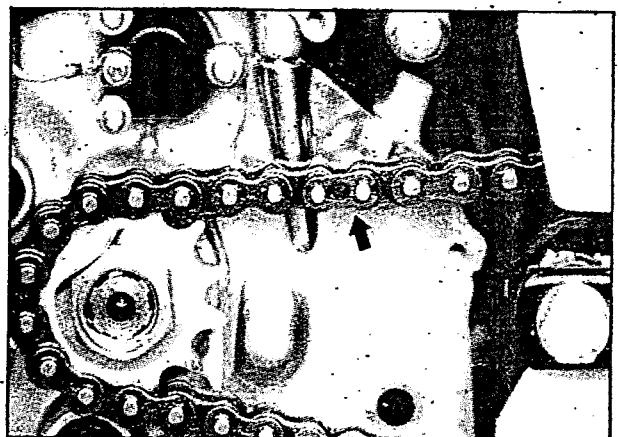

Fig 3.9
- Take off the chain (fig 3.9) by disconnecting the chain lock